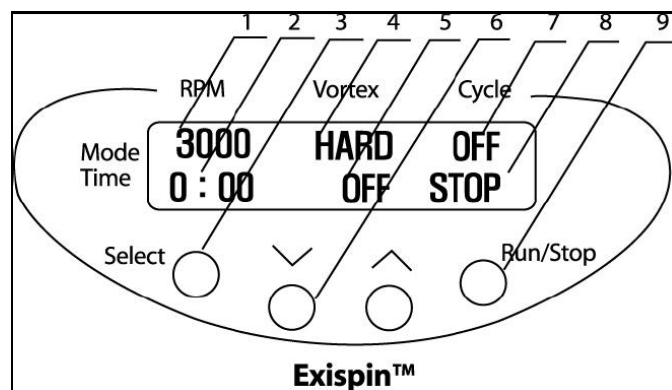

Fig. 5 Control panel in advanced mode
Note! If the display readouts are as shown on Fig. 5, it is necessary to switch the unit to standard mode
- 5.3.2. Parameter setting: Press **P1/Select** key (Fig. 5/3) to choose the parameter to change (the active parameter is blinking). Use “▲” and “▼” keys (Fig. 5/6) to set the necessary value (note: if the key is pressed for more that 4 sec the numerical changes quickly).
- 5.3.4. Set the necessary speed of spin (from 1000 till 3500 RPM, step 100 RPM) (Fig.5/1)
- 5.3.5. Set the time of spin (from 1 sec till 30 min, time less than 1min – with 1sec step, more than 1min – with 1 min step)(Fig. 5/2)
- 5.3.6. Set the mixing strength (select for soft, medium and hard) (Fig. 5/4)
- 5.3.7. Set the time of mixing (from 1 till 20 sec, step 1sec) (fig. 5/5)
- 5.3.8. Set how many times the set sms – algorithm shall be repeated (from 1 till 999 times) (Fig. 5/7)
- 5.3.9. Press **Run/Stop** key (Fig.5/9) to start the program.
- 5.3.10. The rotor motion begins and the corresponding indication (**RUN. Fig. 5/8**), cycle countdown (Fig. 5/7) and the changing time values (**Fig. 2/2 or Fig. 2/5**) are shown on the display.
- 5.4.2. Set the necessary speed of spin (from 1000 till 3500 RPM, step 100 RPM) (Fig. 5/1).
- 5.4.3. Set the time of spin (from 1 sec till 99 min, time less than 1min – with 1 sec step, more than 1 min – with 1 min step) (Fig. 5/2)
- 5.4.4. Turn off the Vortex type motion by setting the time of Vortex type motion to zero (OFF) (Fig. 5/5). Note that the cycle counter turns off.
- 5.4.5. Press **Run/Stop** key (Fig. 5/9) to start centrifugation.
- 5.4.6. The rotor motion begins and the corresponding indication (Run (Fig. 5/8), and time countdown (Fig. 5/2) is shown on the display.
- 5.5.2. Turn off the Spin motion by setting the time of Spin motion to zero (OFF) (Fig. 5/2).
- 5.5.3. Set the mixing strength (select from soft, medium and hard) (Fig. 5/4).
- 5.5.4. Set the time of mixing (from 1 till 20 sec, step 1 sec) (Fig. 5/5).
- 5.5.5. Press **Run/Stop** key (Fig. 5/9) to start vortexing.
- 5.5.6. The rotor motion begins and the corresponding indication (RUN [Fig. 5/8], and time countdown [Fig. 5/5]) is shown on the display.